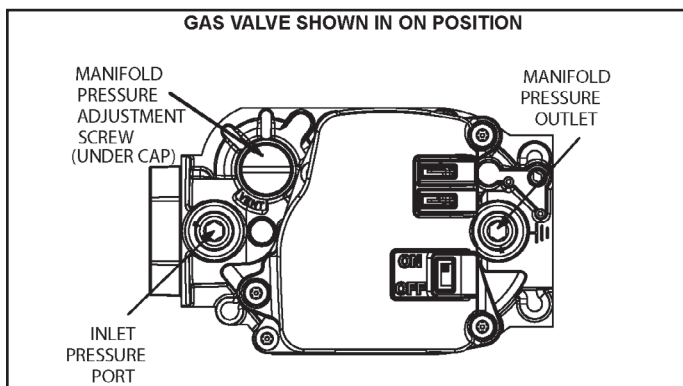

Figure 69.
See Figure 69
6. Move gas valve switch to OFF. See Figure 69.
8. Move gas valve switch to ON. See Figure 69.
When testing supply gas pressure, use the 1/8" N.P.T. plugged tap or pressure post located on the gas valve to facilitate test gauge connection. See Figure 69. Check gas line pressure with unit firing at maximum rate. Low pressure may result in erratic operation or underfire. High pressure can result in permanent damage to gas valve or overfire.